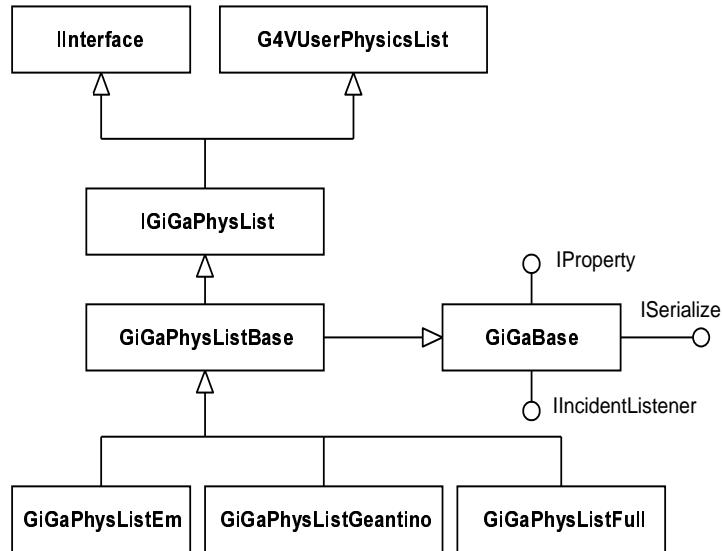

Figure 4.1: The class diagrams for **GiGaPhysList** classes
**GiGA** provides the possibility of instantiation of such objects using abstract factories approach. To get this behaviour the intermediate abstract interface **IGiGaPhysList** is defined by merging **G4VUserPhysicsList** and **IInterface** interfaces. Then one could reuse the standard approach of abstract factories to instantiate such objects. The simplified class diagrams are shown on figure 4.1.